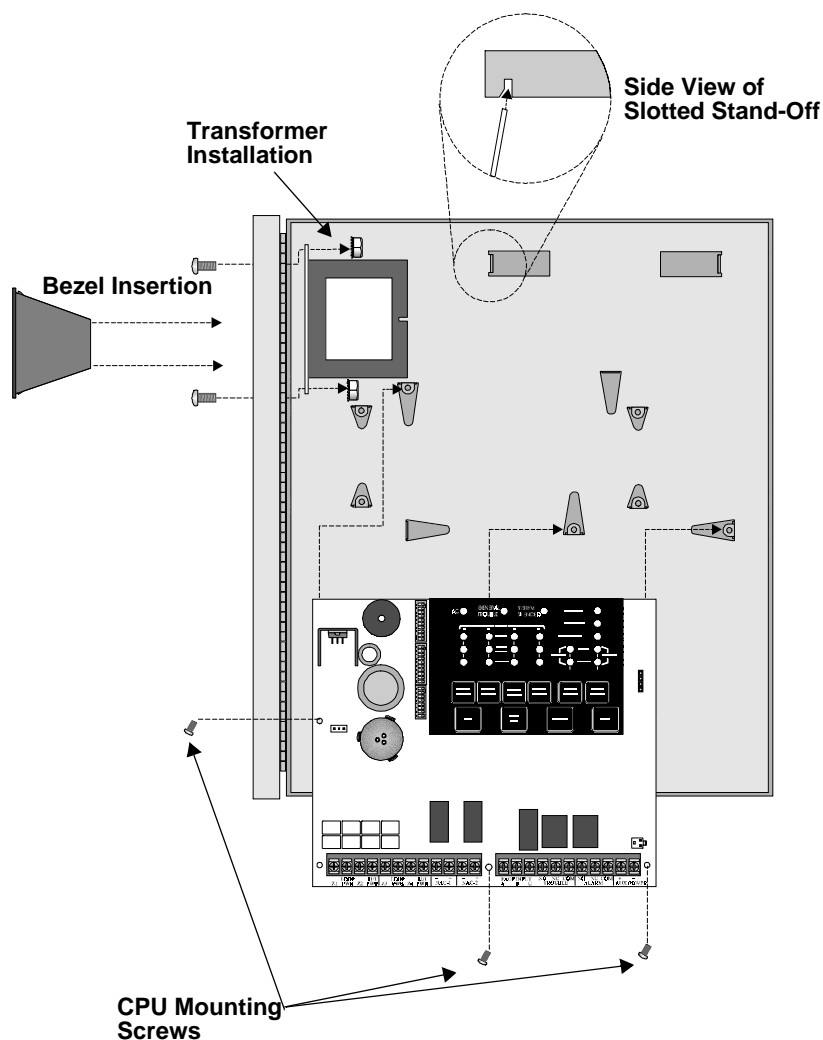

Figure 3-3 Assembly Diagram for the SK-4224
4. Snap the bezel into the opening in the front of the cabinet. See Figure 3-3.
5. With the two #8 Screws and the two #8 nuts (with built in washers), mount the transformer in the holes in the upper left hand corner of the cabinet. See Figure 3-3.